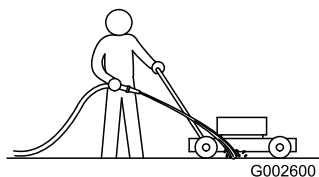

Figure 23
3. With the engine running and the blade engaged, spray a stream of water in front of the **right**, rear wheel (Figure 23).